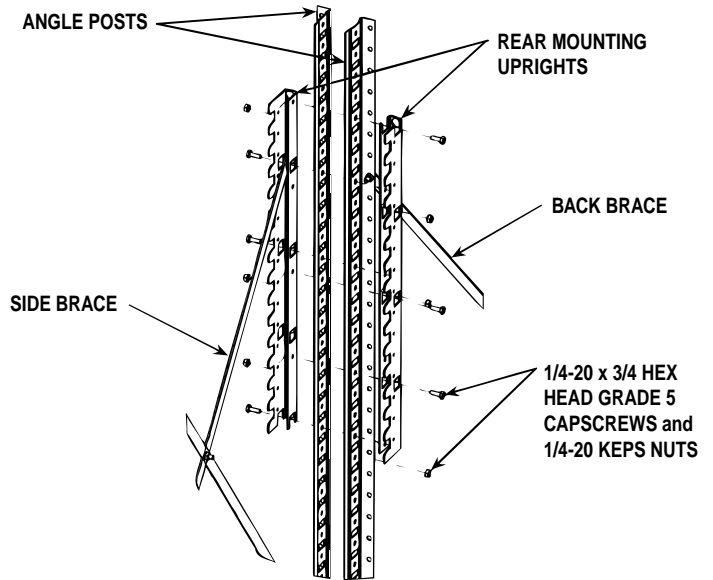

FIGURE 2
- Mount the front and rear mounting uprights with the notched portion facing the inside of the unit. (See Figure 2)